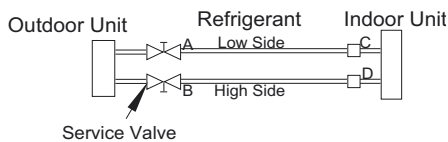

Fig. 79 – Service Valve
1. Completely tighten the flare nuts A, B, C, D, E. Fully open all circuits service valves, connect the manifold gage charge hose to the charge port of the low side Master service valve to evacuate all circuits at the same time (see Fig. 79).